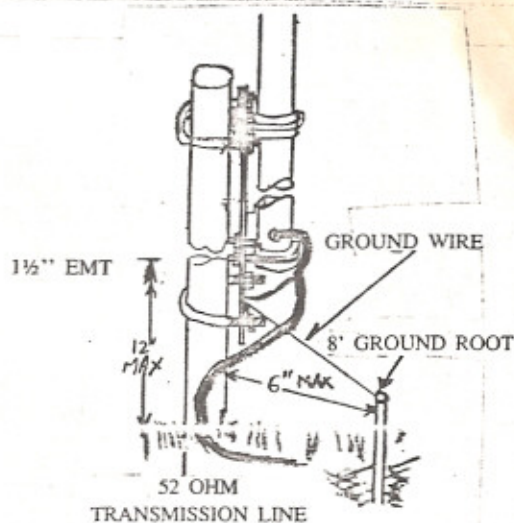
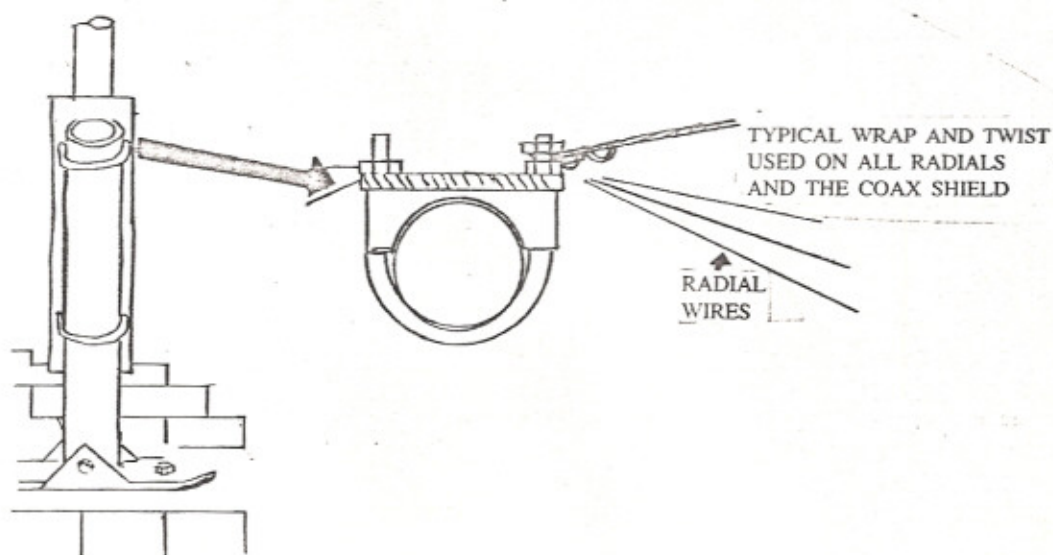

Figure 2
Figure 3
The 4010V can be mounted on the ground, on a rooftop, or on a mast. When mounting the antenna above ground, remember that you must also install a ground plane system. When the antenna is ground-mounted, a radial system is usually not needed. In some areas, where soil surface conductivity is poor and a good ground cannot be made using the method shown in Figure 2, lay out ground radials to improve the efficiency of your antenna.
Refer to the mounting details of Figure 2 and Figure 3 in installing the completed antenna.
- ( ) Procure an appropriate length of 1 1/2" EMT and install per Figure 2 or Figure 3.
- ( ) Mount the completed antenna on your mast as shown in Figure 2. Use two item 12 muffler clamps.
- ( ) If you are roof-mounting your antenna, install radials as illustrated in Figure 3.
- ( ) If you are ground mounting your antenna, install it as shown in Figure 2. You must install an 8 foot ground rod as shown.
- ( ) Connect your coaxial cable as shown in Figure 2.